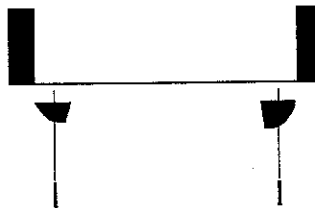

Figure 4. Feet Installation
- With a Phillips head screwdriver, securely tighten both screws. (see Figure 4)